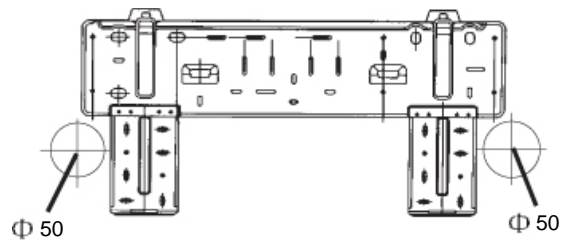

Fig. 1
1. Make the piping hole (Φ50) in the wall at a slight downward slant to the out door side. (Shown in Fig. 1)